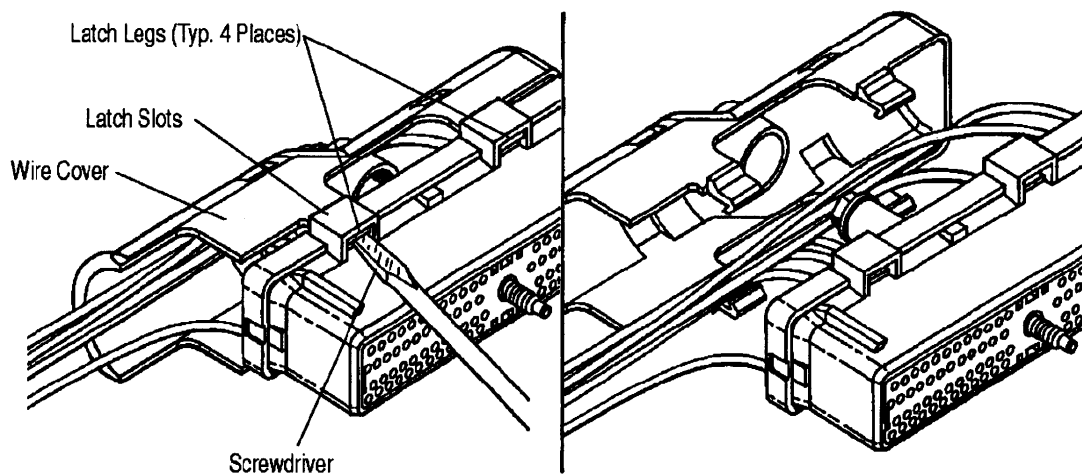

Figure 5
Refer to Figure 5 and proceed as follows:
1. Remove shield wire cover by releasing the four latch legs from the latch slots of the plug housing. See Figure 5.